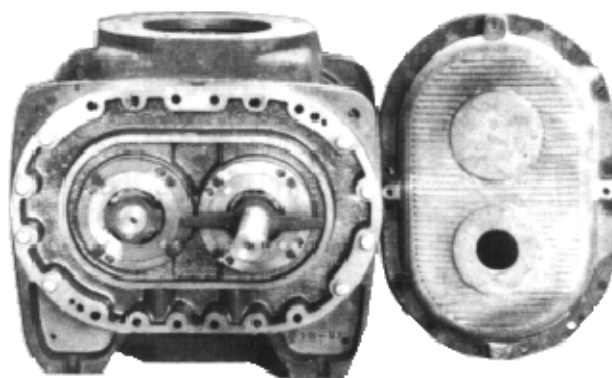

FIGURE 17 - DRIVE END
To check or establish the gear-end clearance, use a sleeve made to substitute for the gear and grip ring assembly (items 5 and 6 on the parts cross section, FIGURE 17, page 31). With the gear locking clamp in place over the shaft end, and against the spacer sleeve, tighten the cap screws to 40 ft. lbs/5.4 kg-m torque. Check the clearance between the impeller ends and gear headplate. Add or remove shims behind the cartridge flange to establish the clearance given in FIGURE 11, page 14. Then remove the spacer sleeve and install gears, grip rings and locking clamps as outlined in "Setting Impeller Clearances," page 15. Note finished torque value.
Refer to FIGURE 17. Remove the drive cover. Unbolt and remove the oil slinger from the shaft, noting its relative position for later replacement; spread slightly to avoid scratching the shaft. The bearing cartridges can now be removed following the procedure described
## 6" VERTICAL Reference Figure 17, Page 31, for Exploded View
**Reference Figure 17, Page 31, for Exploded View**